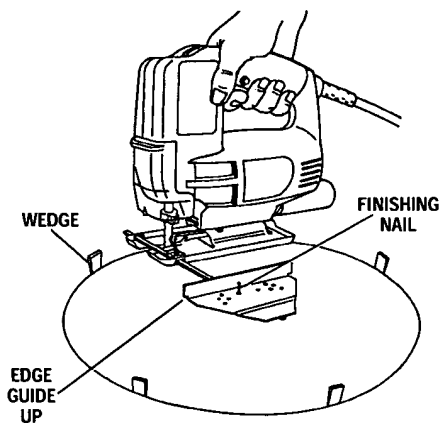

FIG. 16
2. Drill or plunge cut near the circle's edge, turn saw off and disconnect the plug from power source (Fig. 16).
Cutting Tip: Cut slowly so the blade will stay straight in the cut. Place small wedges in the cut as shown in Fig. 16, to keep the inner circle from spreading when near the end of the cut.